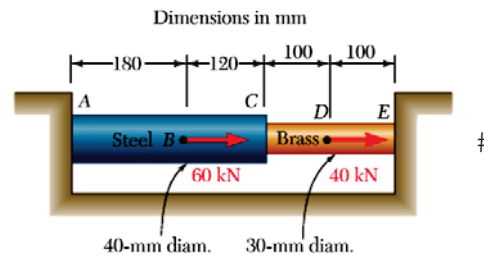

Figure 2 / Rajah 2#
- (b).# Figure 2 shows two cylindrical rods, steel and brass are joined at C and restrained by rigid supports at A and E. For the loading shown and knowing that $E_s = 200$ GPa and $E_b = 105$ GPa, determine (a) the reactions at A and E, (b) the deflection of point C.